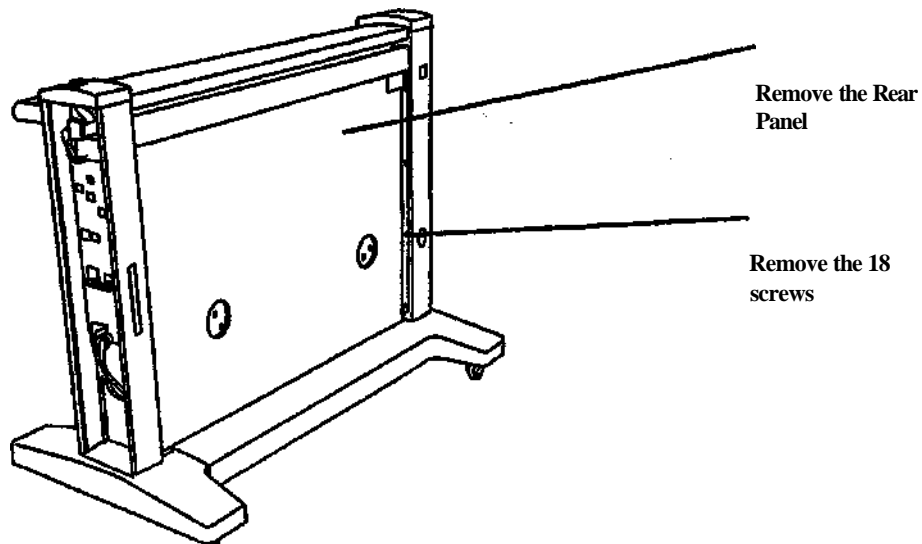

Figure 1. Removing the Rear Panel
1. (Figure 1): Remove the Rear Panel.